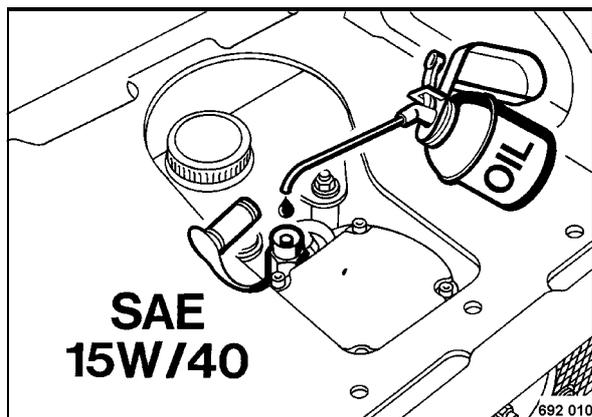

Fig. 20
- Pull the protection cover (Fig. 20) off the dosing device. Fill in engine oil to the top, reattach the cover and press it firmly in.